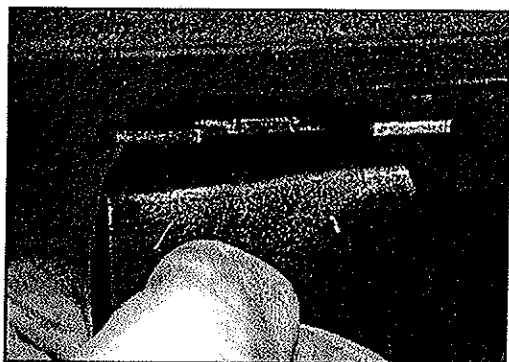

Figure 14
3. Remove the Glass Frame Assembly by pulling the Latch Releases forward and upward. See Figure 14. Lift the Glass Frame Assembly up, sliding the [3] tabs at the bottom out of the slots. See Figure 15.